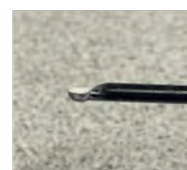

Figure 5. Level spatula with NO_3^-2
3. Then add 1 level spatula (see figure 5) of NO_3^-2 (reagent 2) to tubes 1-3.